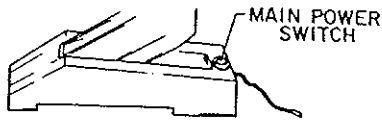

Figure 2-1. Main Power Switch
- b. Depress "Main Power ON/OFF" switch located on top of the foot end of the base. See figure 2-1. A green indicator light on the posturing control unit should now be illuminated.